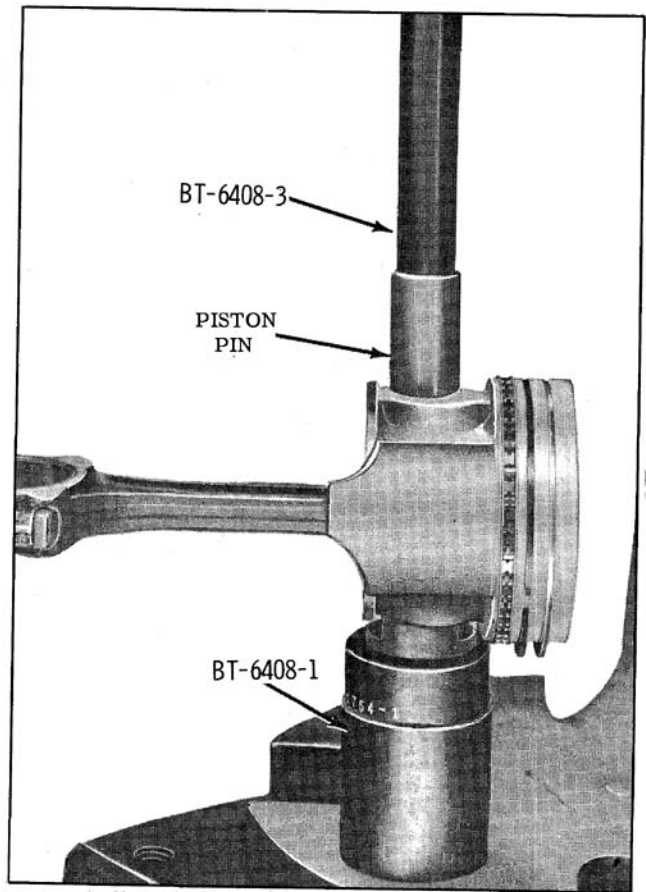

Fig. 3-88 Installing Piston Pin
3. Coat piston pin with SAE 10W30 oil. Place pin in piston as shown in Fig. 3-88. Press in piston pin with Tool BT-6408-3 until it makes contact with guide stop Tool BT-6408-2 in main body Tool BT-6408-1. This will automatically center the pin in the piston. Pin to connecting rod fit is .0008" to .0016" tight.